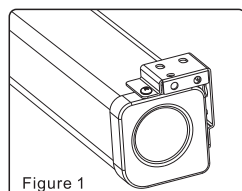

Figure 1
Using a tape measure, measure the distance between the two keyholes on the casing (figure 1) . According to the measurement, use the drill to drill identical holes of the appropriate size on the ceiling (use a smaller drill bit than the actual screws ) and ensure that it is level ( figure 2 & 3 ) . Screw in the hook screws ( not provided ), and lift the screen into the hook screws to hang (figure 4). To ensure that the screen is level, use a level to check (figure 5).
2. There are two way for wall brackets to fix on the housing. As you can see on the figure 1, which is our normal fixed way (namely factory set). While the other fixed way is to interchange the left and right wall brackets, and then fix onto the housing (namely functional installation way, as figure 2).
Using a tape measure, measure the distance between the two keyholes on the casing ( figure 1 ). According to the measurement, use the drill to drill identical holes of the appropriate size on the wall (use a smaller drill bit than the actual screws) and ensure that it is level ( figure 2 & 3 ). Screw in the appropriate screws, either 5 x 40 by itself for wood walls or with anchors for drywalls, leaving enough space at the end to hang the casing ( figure 4 ). To ensure that the screen is level, use a level to check ( figure 5 ).
Using a tape measure, measure the distance between the two keyholes on the casing ( figure 1 ). According to the measurement, use the drill to drill identical holes of the appropriate size on the ceiling (use a smaller drill bit than the actual screws) and ensure that it is level ( figure 2 & 3 ). Screw in the hook screws ( not provided ), and lift the screen into the hook screws to hang ( figure 4 ). To ensure that the screen is level, use a level to check ( figure 5 ).